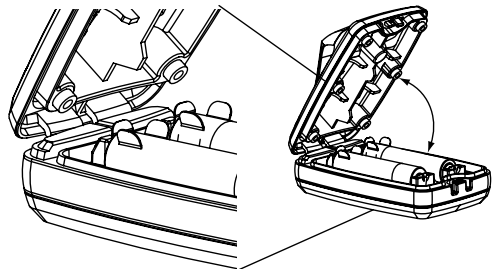

Figure 21. Back side of the cover inserted in its position.
2. Carefully remove the cover by lifting up the front of the cover (see fig. 21).
4. Close the cover by first inserting the backside of the cover in the transmitter, and then press the front down (see fig. 21).